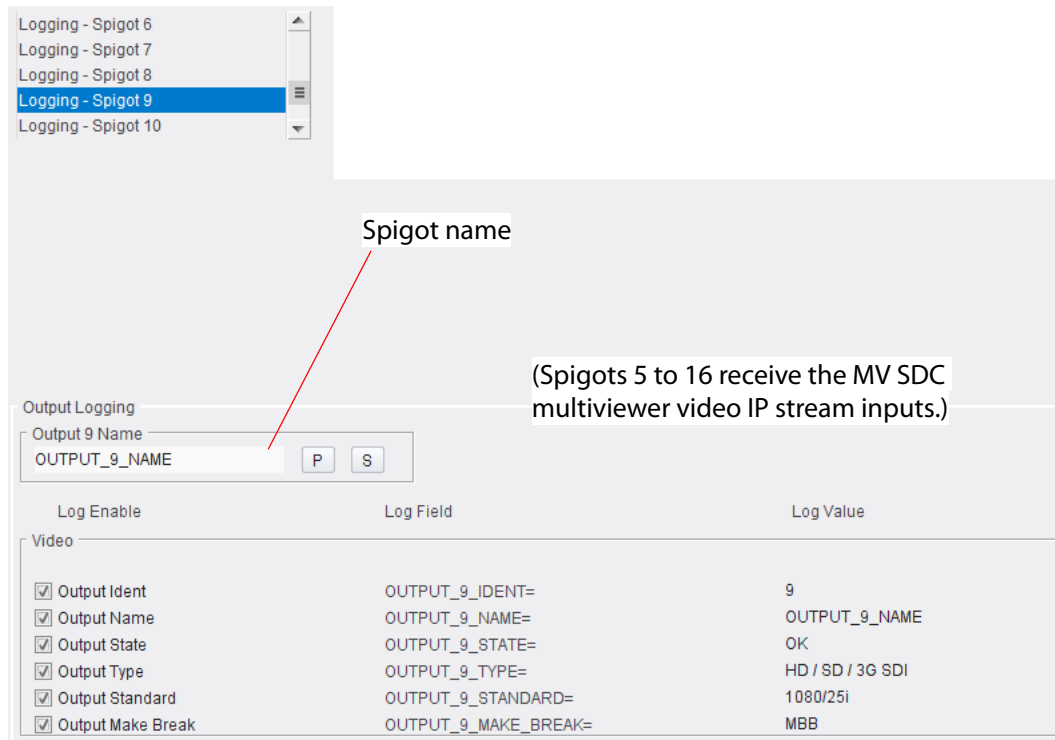

Fig. 6-52: Logging Spigot Template - Destination Spigots 5 to 16
- an IP destination spigot ("Output N ...", see Figure 6-52).